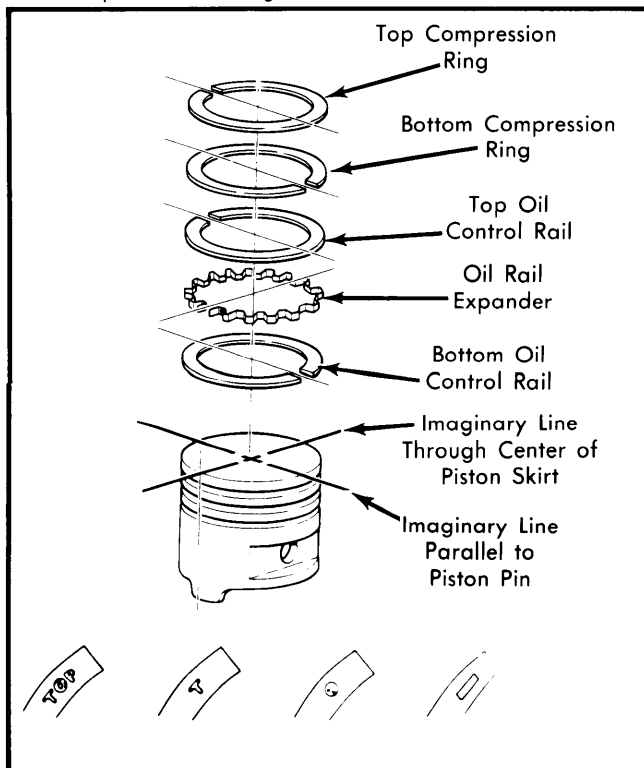

Fig. 5 Piston Ring Gap Positions and Ring Markings
3) Position piston rings as shown in Fig. 5. Ring gaps may vary 20° from position illustrated. Make sure markings on compression rings point up. See Fig. 5. When installing oil control rings, insert expander ring first, then side rails. Check ring side clearance with a feeler gauge. If found to be excessive, replace piston.